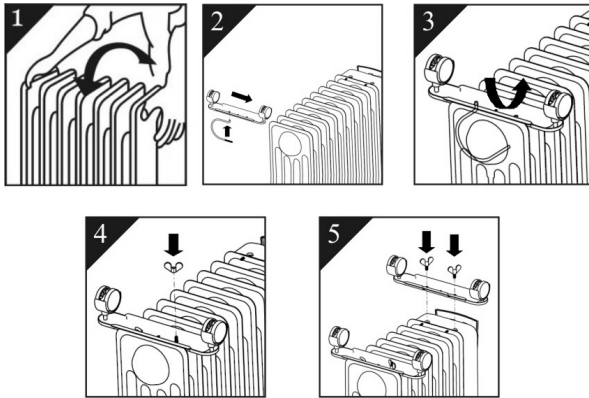

Fig. 6
**IMPORTANT:** Please fit the wheel+baseplate assemblies as shown above. Other positions may affect the stability of the unit (see Fig.6 for correct orientation).
**WARNING:** Only operate the radiator in normal upright position with wheels assemblies attached to the bottom as shown in Fig. 6 (wheels on the bottom, controls on the top), any other position could create a hazardous situation